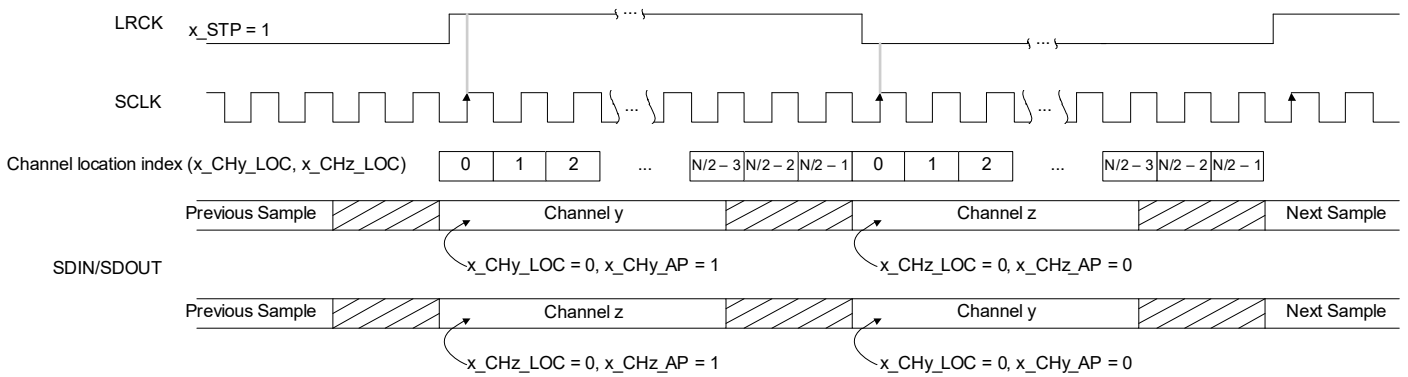

Figure 4-38. Example 50/50 Mode (ASP_STP = 1)
- If `ASP_STP = 1`, the frame begins when LRCK/FSYNC transitions from low to high. See Fig. 4-38.